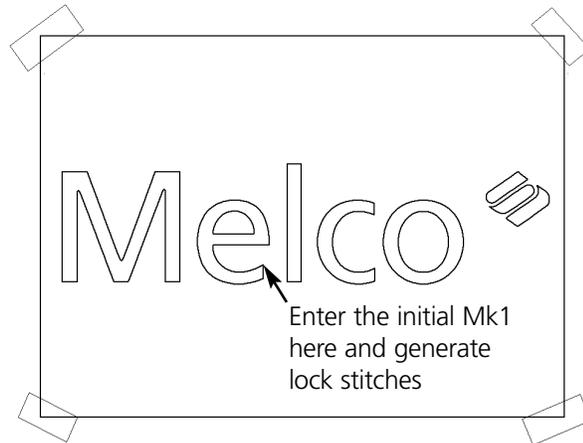

Figure 3-13
2. Now go to the letter **e** in the example design and enter a Mk1 at the upper right corner of the tail of the letter **e** (see Figure 3-13).